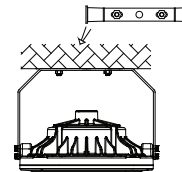

Figure 4
- 4.finally tighten the nut of the screws (Figure 4).